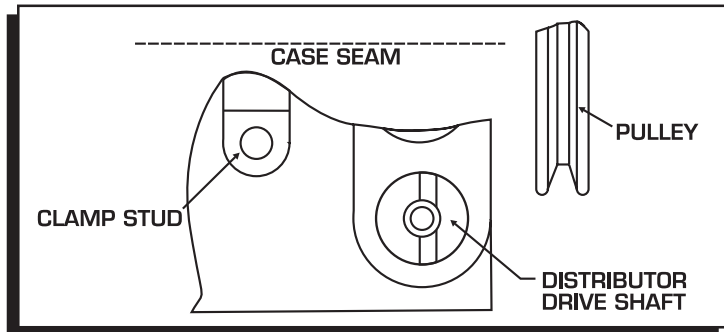

Figure 7 Distributor Driveshaft Position.
3. Make sure the position of the distributor driveshaft slot is perpendicular to the case seam (Figure 7). If not, move it to the proper position.